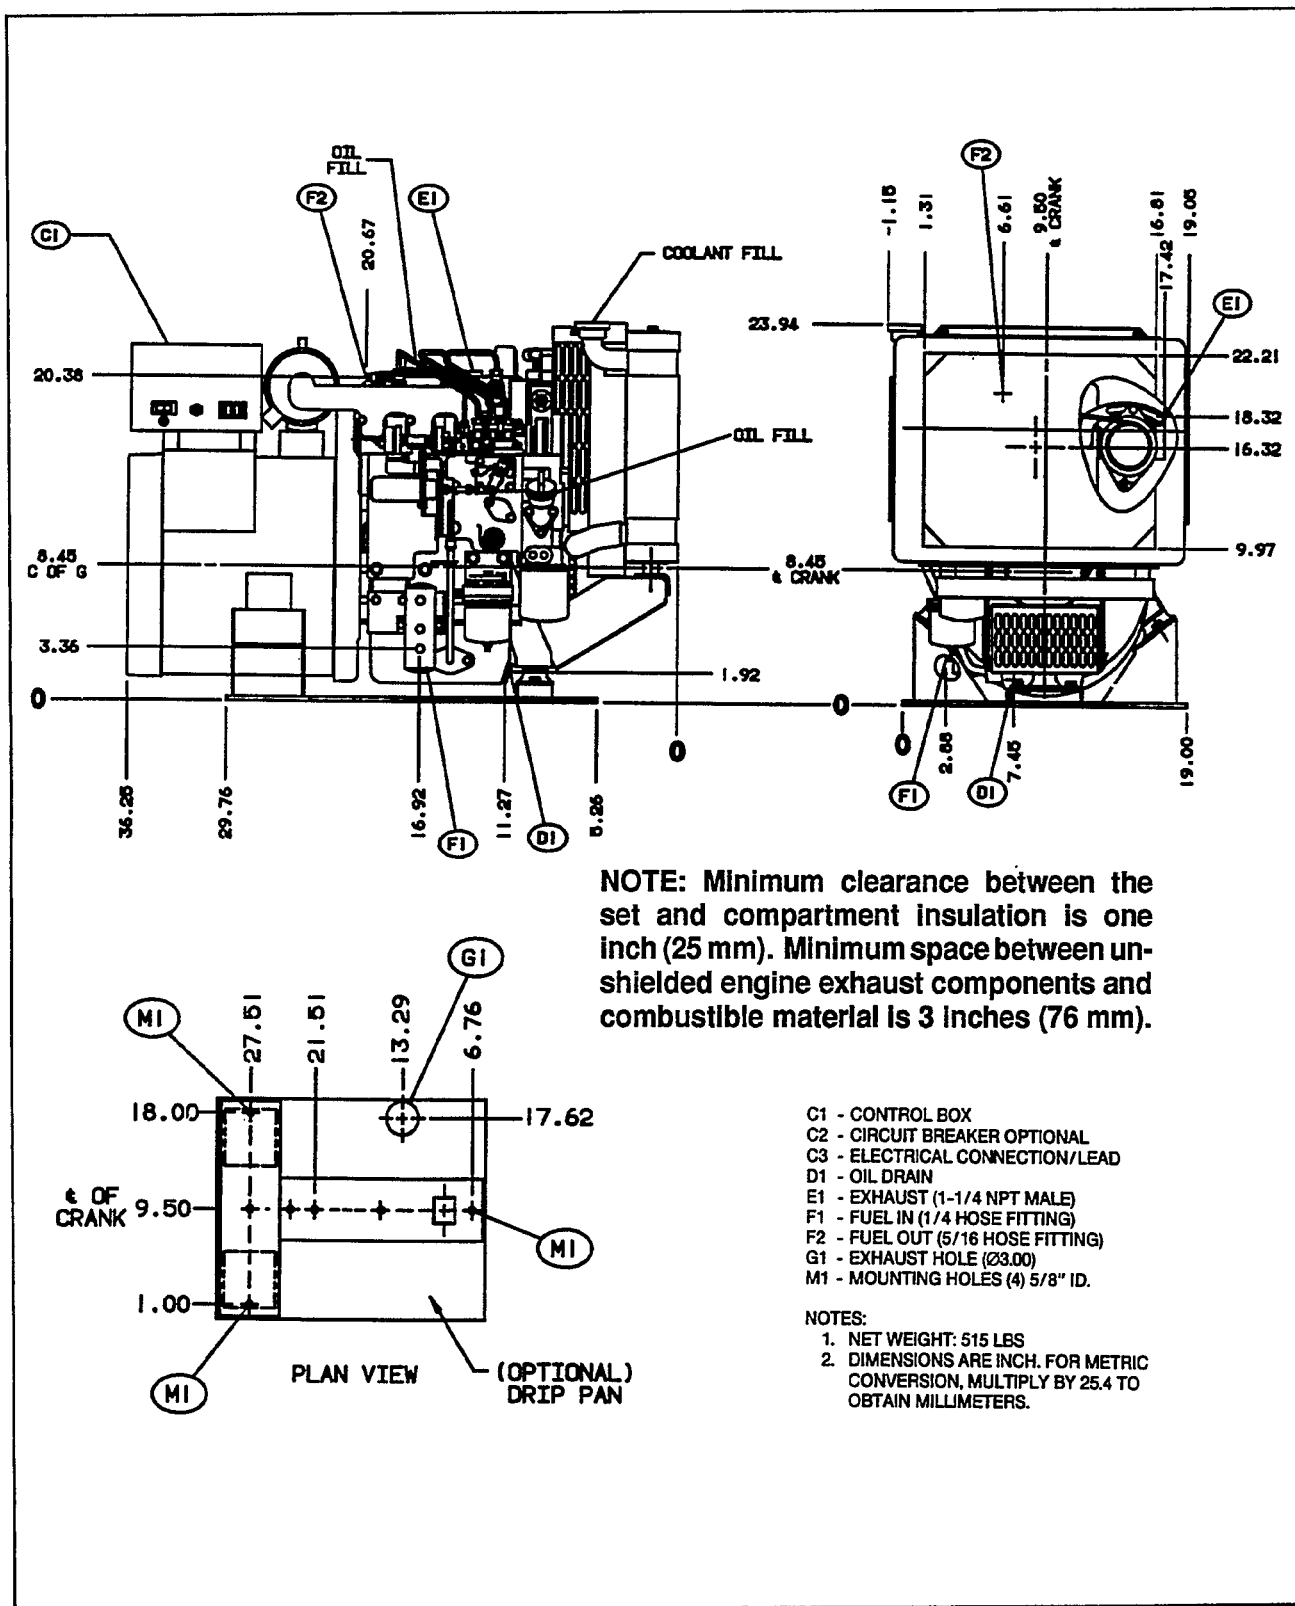
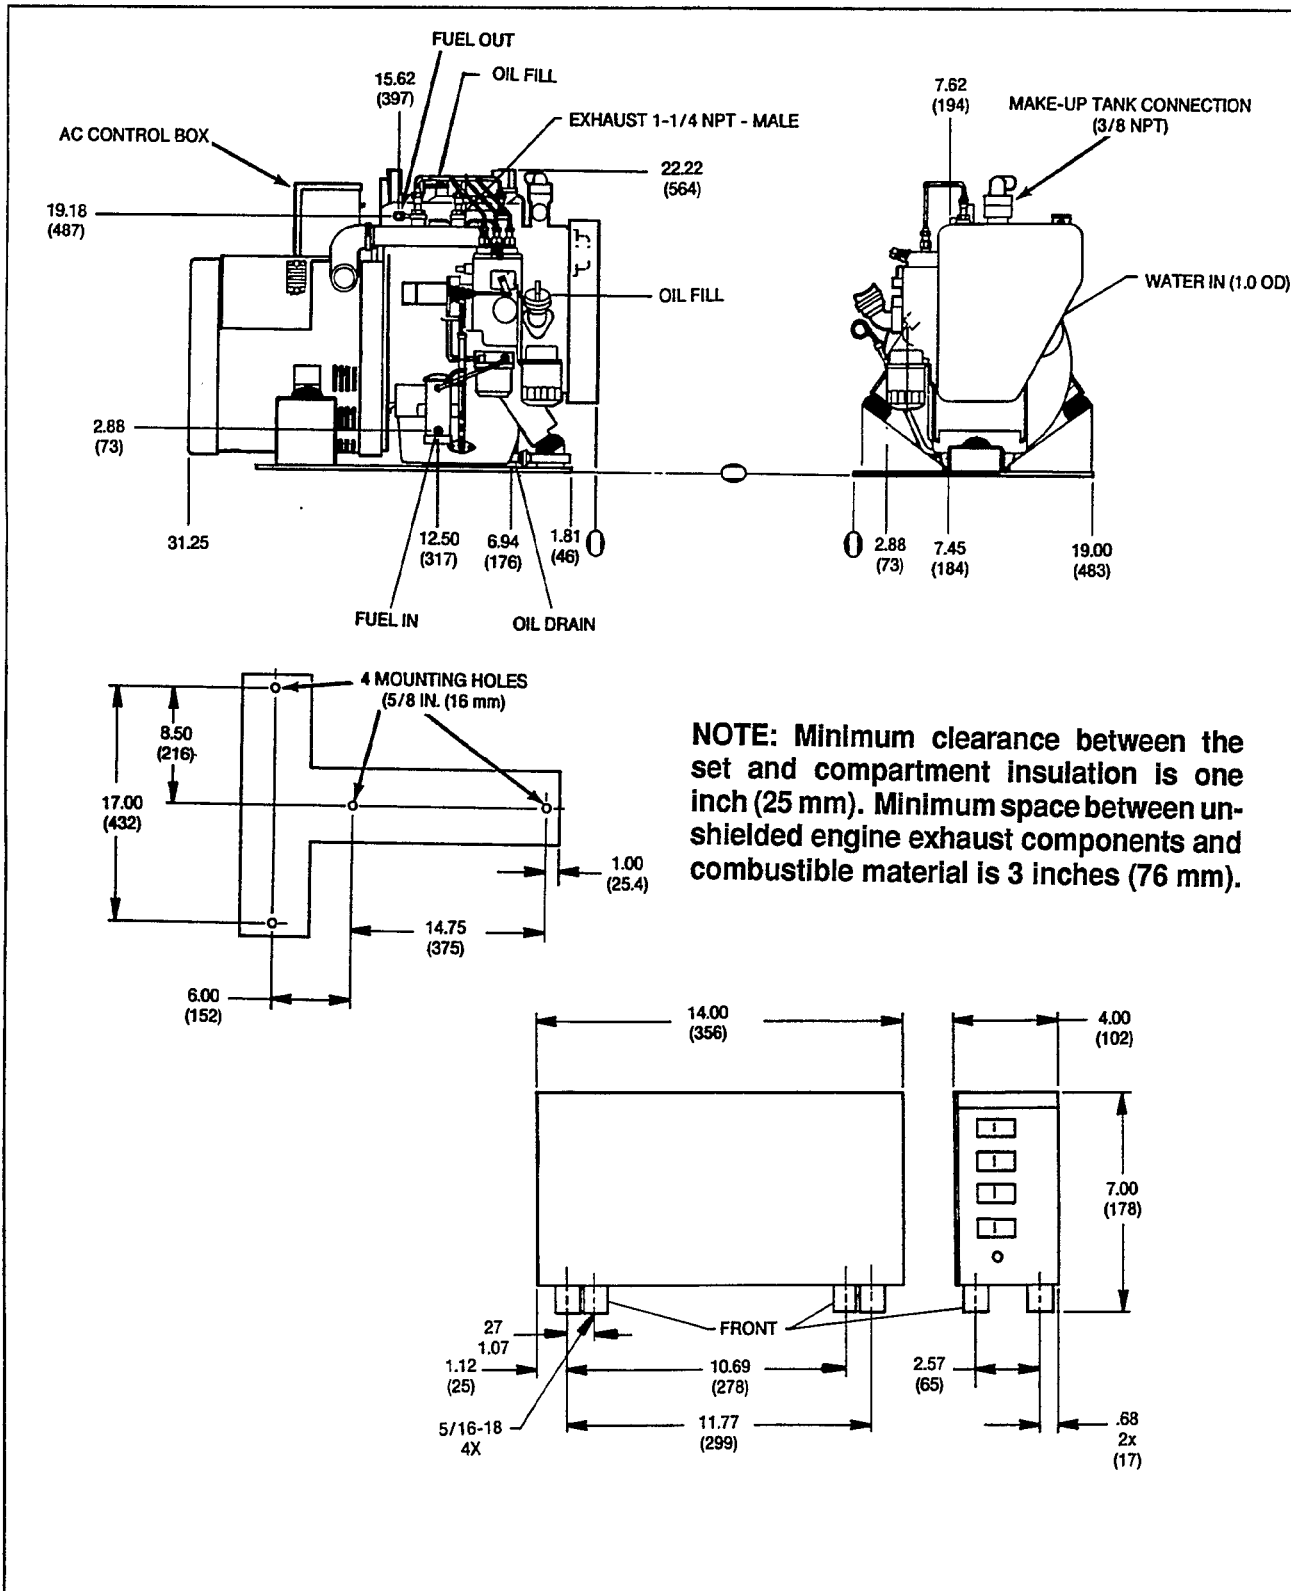

FIGURE 4-1. 7.5 DKD, 6.5 DKD AND 6.0 DKD DRIP PAN AND GENERATOR SET MOUNTING DIMENSIONS
FIGURE 4-2. 8.0 DKD GENERATOR SET AND CONTROL BOX MOUNTING DIMENSIONS
The DKD genset is designed for above-floor compartment mounting. The RV frame must be able to support the weight of the generator set with a generous margin, so that the set may remain firmly positioned over rough roads. See Section 2, *Specifications*, for the weight of the set. Mounting hole locations are shown in Figure 4-1. **The vehicle manufacturer and the installer must provide a structurally sound support frame.**
Construct the genset compartment according to the ANSI and safety-approved specifications listed in Section 1 of this manual. Figure 4-2 shows compartment dimensions, including clearances between the genset and the compartment.
Make the access opening large enough to remove the set, with openings for engine and generator cooling air (see Figure 4-2). An engine fan and a generator fan cool the set. The engine fan pushes air through the radiator. (A suction fan is optional.) A centrifugal blower mounted on the generator drive disc draws generator cooling air into the end bell and discharges it at the blower outlet. See the *Ventilation* section of this manual for more details.
1. Construct a vapor-tight wall to separate the compartment area from the living quarters and fuel supply. See Figure 4-2 for set dimensions.
To minimize noise, line the entire genset compartment (except the compartment floor) with a 1/2 to 1 inch (12.7 to 25.4 mm) thickness of self-extinguishing acoustical material, rated for 250° F (121° C) minimum. Adjust the compartment height, width and depth dimensions to fit the acoustical material. See Figures 4-1 and 4-2.
A combination of materials works better than a single material to reduce noise. For example, a sheet of dense material and a layer of acoustical foam is more effective than either alone. Insulation must not reduce the minimum clearances specified in Figure 4-2, to meet UL, ANSI and CSA insulation temperature rise limits for recreational vehicles.
Figure 4-1 shows the drip pan dimensions and genset mounting dimensions of the 6.0, 6.5, and 7.5 kW DKD generator sets. Figure 4-2 shows the control box dimensions and genset mounting dimensions of the 8.0 DKD generator set. Install two through-bolts to the drip pan (8.0 kW set: mounting pads) on both sides of the genset. Tighten the bolts securely to the mounting base with bolts and flat washers.